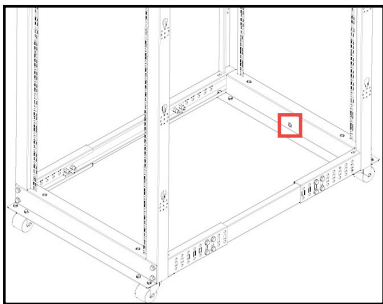

Figure 10
1. Insert an **M6 Screw** through the **Grounding Point** on the **Grounding Wire** and into the **Ground Hole** located on the bottom of the **Rack**. (Figure 10)